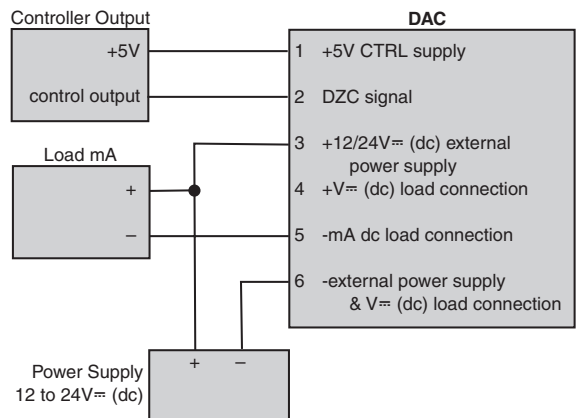
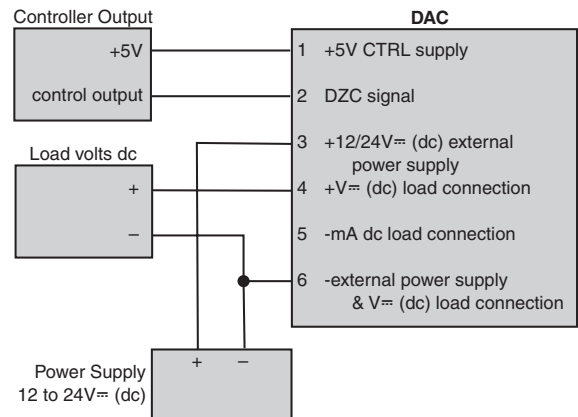

Figure 2. DAC with Current Output
Figure 3. DAC with Voltage Output
- Shut the system power off and wire the DAC to the controller and final control element. *Figure 2* shows the wiring for current. *Figure 3* shows the wiring for voltage.